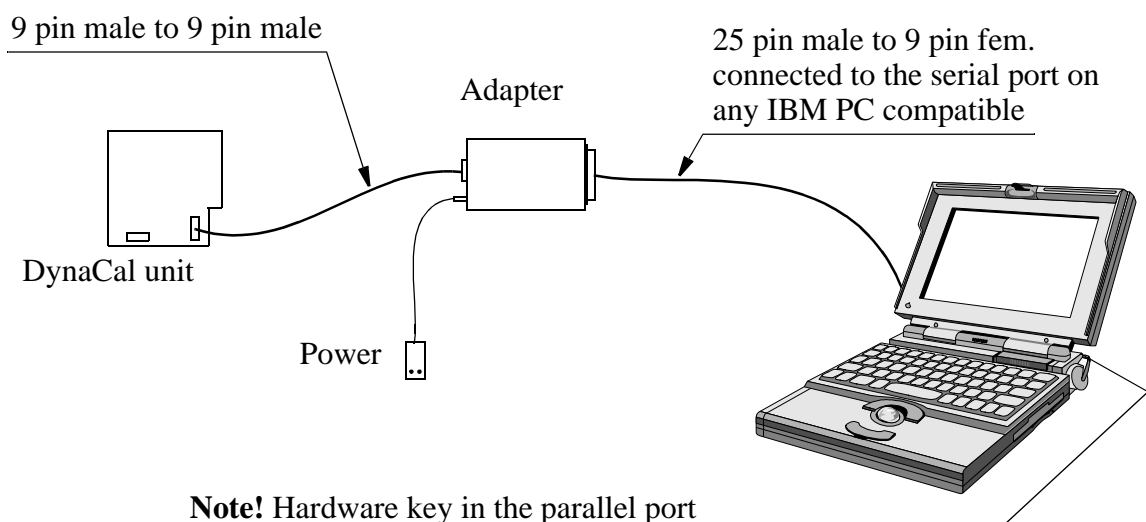

Figure 19 The DynaCal System.
The calibration is performed with the DynaCal System (see Figure 19).
- Hook up the system together with a PC according to Figure 19.